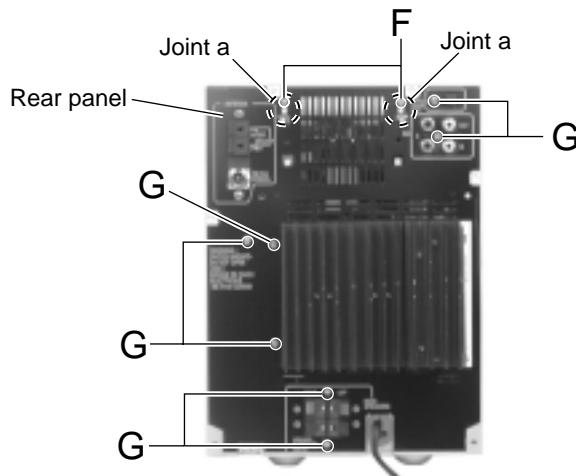

Fig.8
■ Remove the rear panel (See Fig.8 to 11)